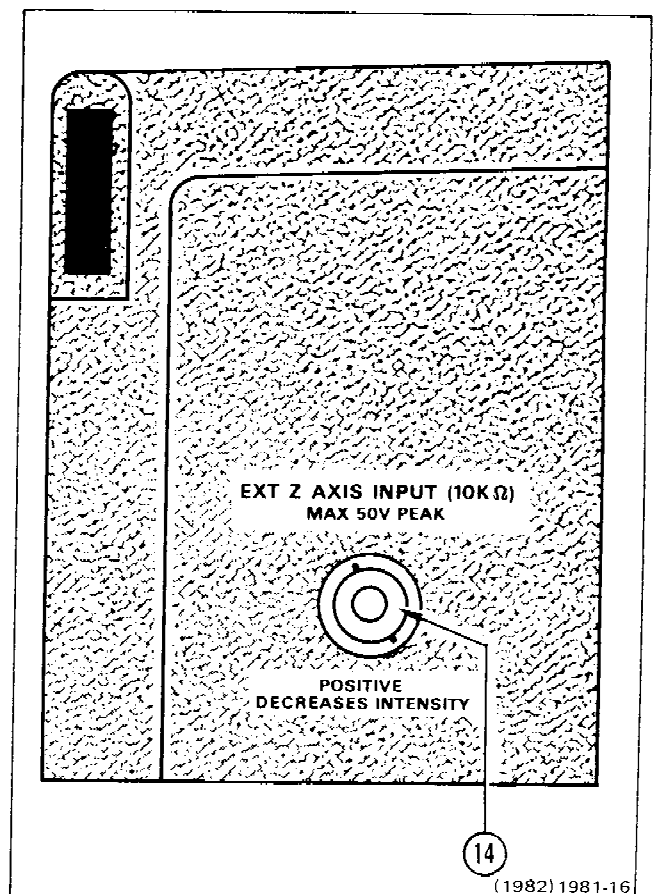
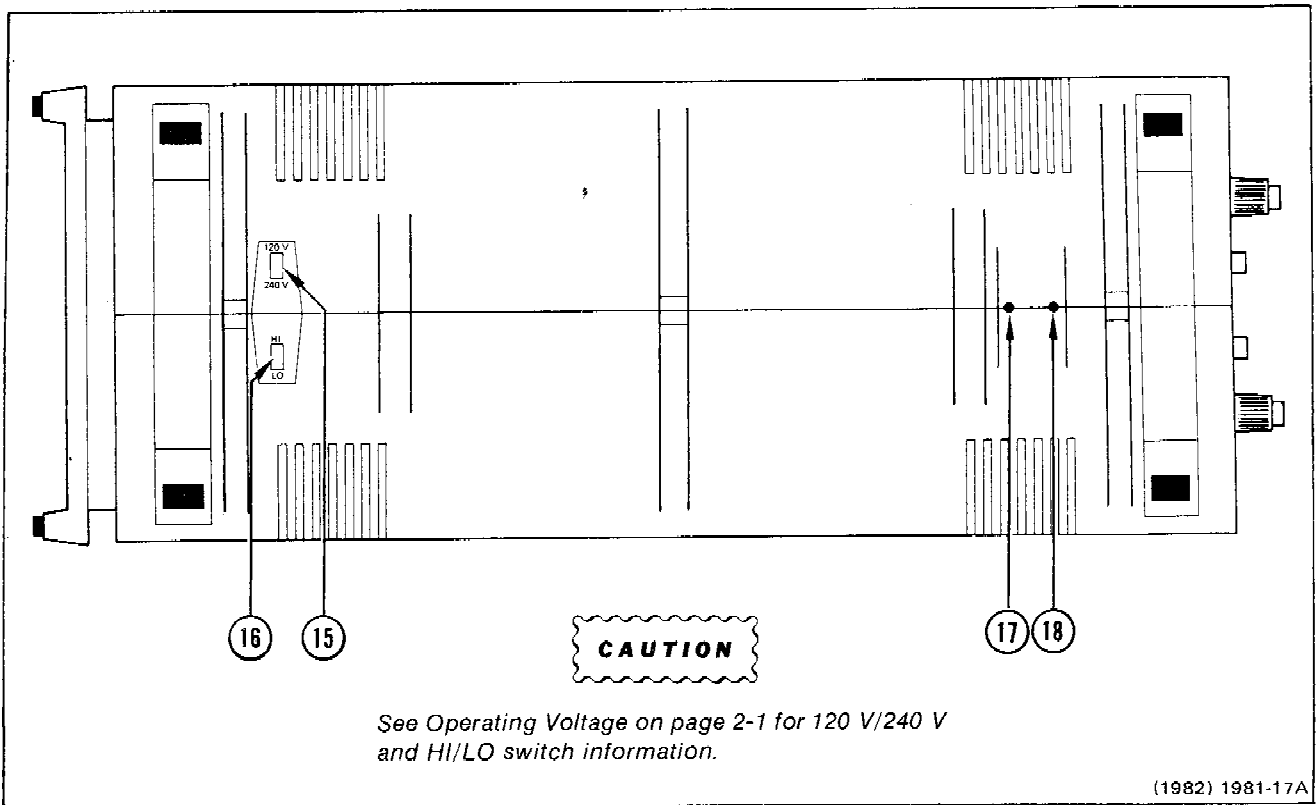

Fig. 2-3. Rear panel controls and connectors.
Fig. 2-4. Bottom of cabinet.
**Rear Panel (Fig. 2-3)**
- ①4 **EXT Z AXIS INPUT**—Bnc connector for applying signals to intensity modulate the crt display. Signals must be time-related to the display for a stable display.
**Bottom of Cabinet (Fig. 2-4)**
- ①5 **120 V/240 V**—Switch selects operation from either 120 V or 240 V nominal power input voltage (is visible, but not adjustable from outside of cabinet).
- ①6 **HI/LO**—Externally adjustable screwdriver actuated switch selects operation from either high or low power input voltage regulating range: LO selects 90 to 110 V or 198 to 242 V, and HI selects 108 to 132 V or 216 to 250 V (depending on setting of 120 V/240 V switch).
- ①7 **CH 1 DC BAL**—Screwdriver adjustment. When properly adjusted, prevents trace shift when switching between adjacent positions of the CH 1 VOLTS/DIV switch.